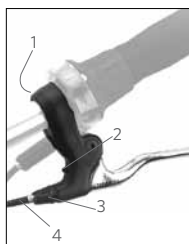

FIGURE 21:
1. Find the lever-clamp bolt (Figure 20 and Figure 21).